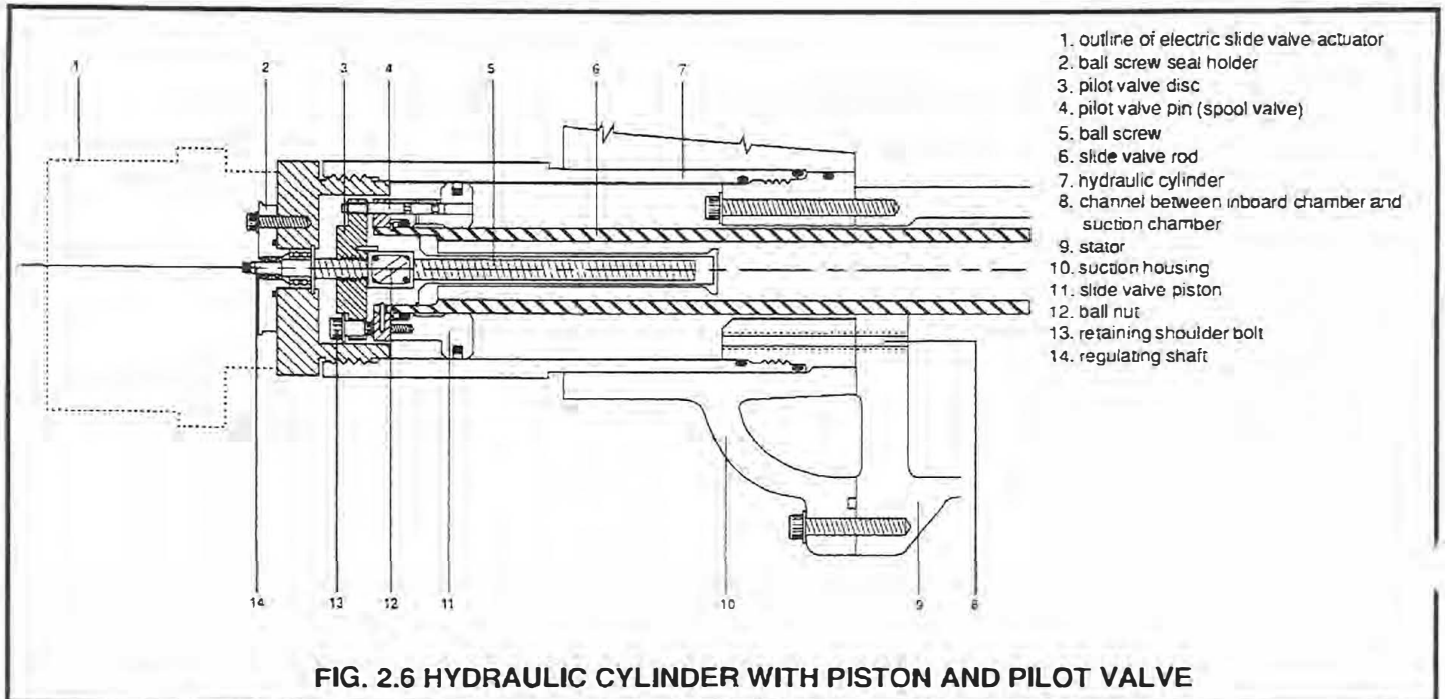

FIG. 2.6 HYDRAULIC CYLINDER WITH PISTON AND PILOT VALVE
- For the actual design of this so-called internal by-pass control system, refer to fig. 2.3, pos. 23 to 32, and to fig. 2.6, which shows a longitudinal drawing of only the hydraulic cylinder.